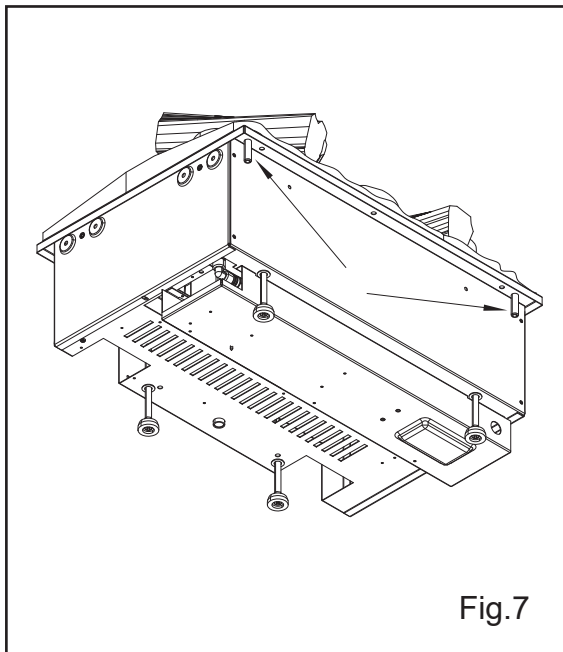

Fig.7
3. Once the product is at the correct height and is level, centre the product within the opening. If using the LED fuel bed (which is wider than the product), this can be done by fitting the fuel bed to the product. The fuel bed will centre itself within the opening and its guides will centre the product underneath (Fig 7).
2. Place the fuel bed on top of the appliance, there are 4 plastic guides under the fuel bed to help locate it (Fig.7). Please note the fuel bed can be placed front to back or back to front on the product.